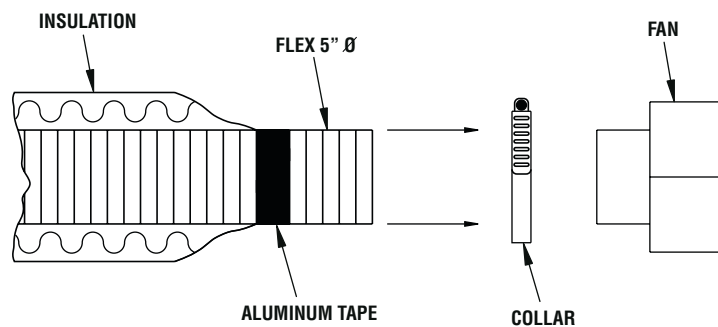

Figure 12
4. Attach the flexible pipe to the blower, using the collars (**Figure 12**).